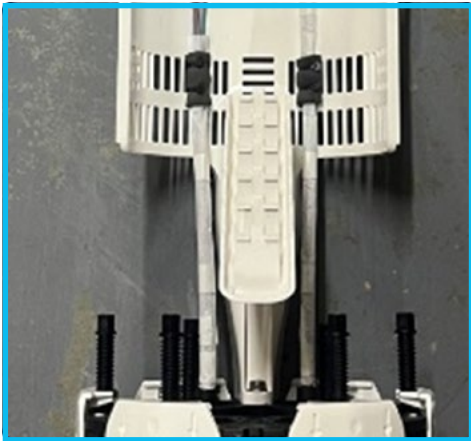

Figure 34
1. Prepare the cable as detailed in section 3 and secure it to the basket using foam and cable ties [figure 34].